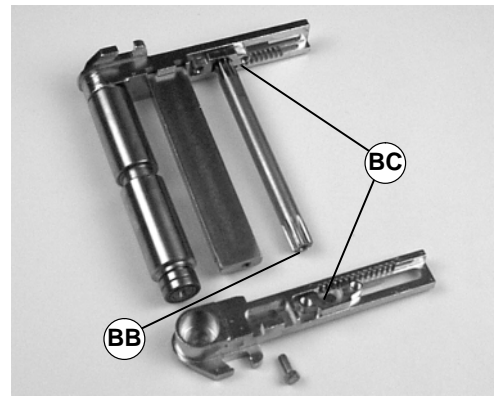

Figure 44
IMPORTANT: On tension tail, be sure to correctly orient components to match the factory orientation. Orient threaded hole side of pinion (BB of Figure 44) so it is toward detached tail plate as shown. Be sure both pinion housings (BC) engage the same tooth positions of racks as shown.